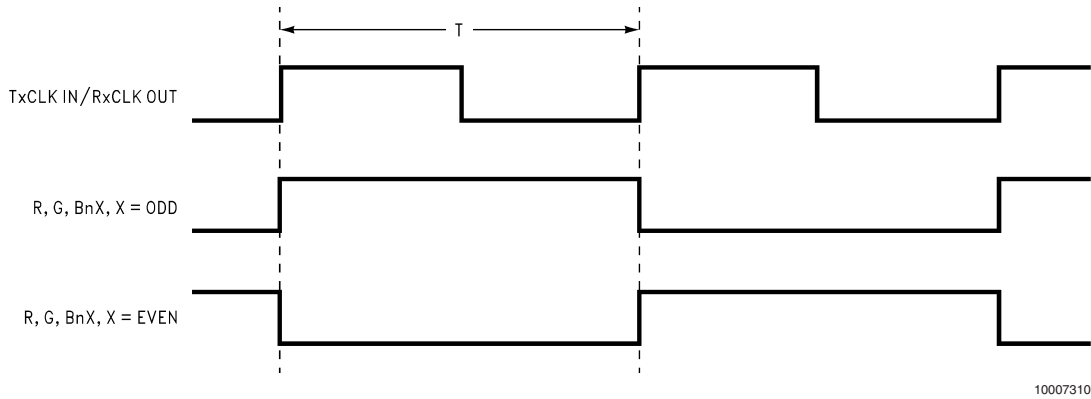

FIGURE 1. "Worst Case" Test Pattern
**Note 11:** Figures 1, 2 show a falling edge data strobe (TxCLK IN/RxCLK OUT).